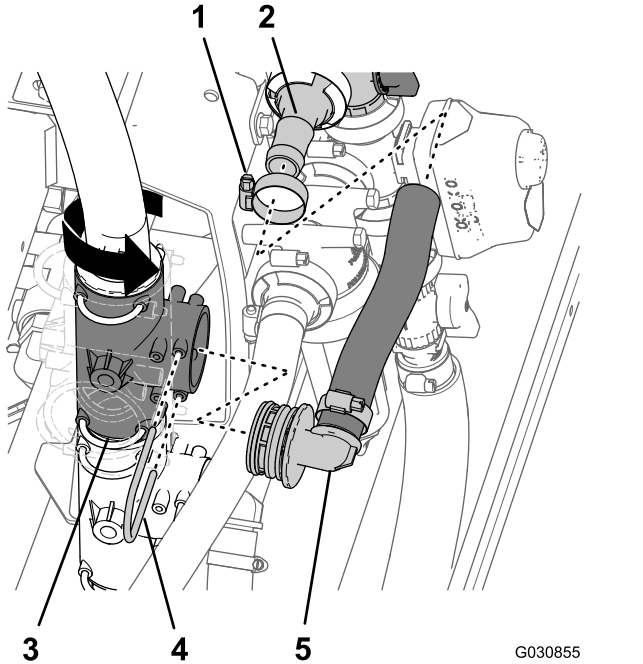

Figure 105
- Rotate the upper T-fitting at the left side of the manifold bracket 90° counterclockwise as shown in Figure 105.
- Assemble the agitation bypass hose (1 x 10 inches) onto the straight-barbed fitting of the agitation-bypass valve (Figure 105).
- Assemble the hub of the 90° barbed fitting at the end of the agitation bypass hose (1 x 10 inches) into the upper T-fitting at the left side of the manifold bracket (Figure 105) with the retainer that you removed in step 4 of Removing the Agitation Valve, Ball Valve, and Hoses (page 32).